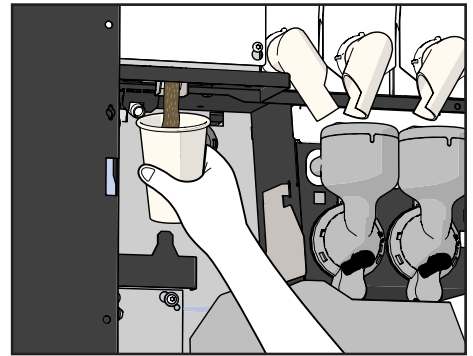

Figure 14.
5. Place a small container or large cup underneath the grinder outlet (see Figure 14) and press the scale button to start the grinder. Repeat this twice.